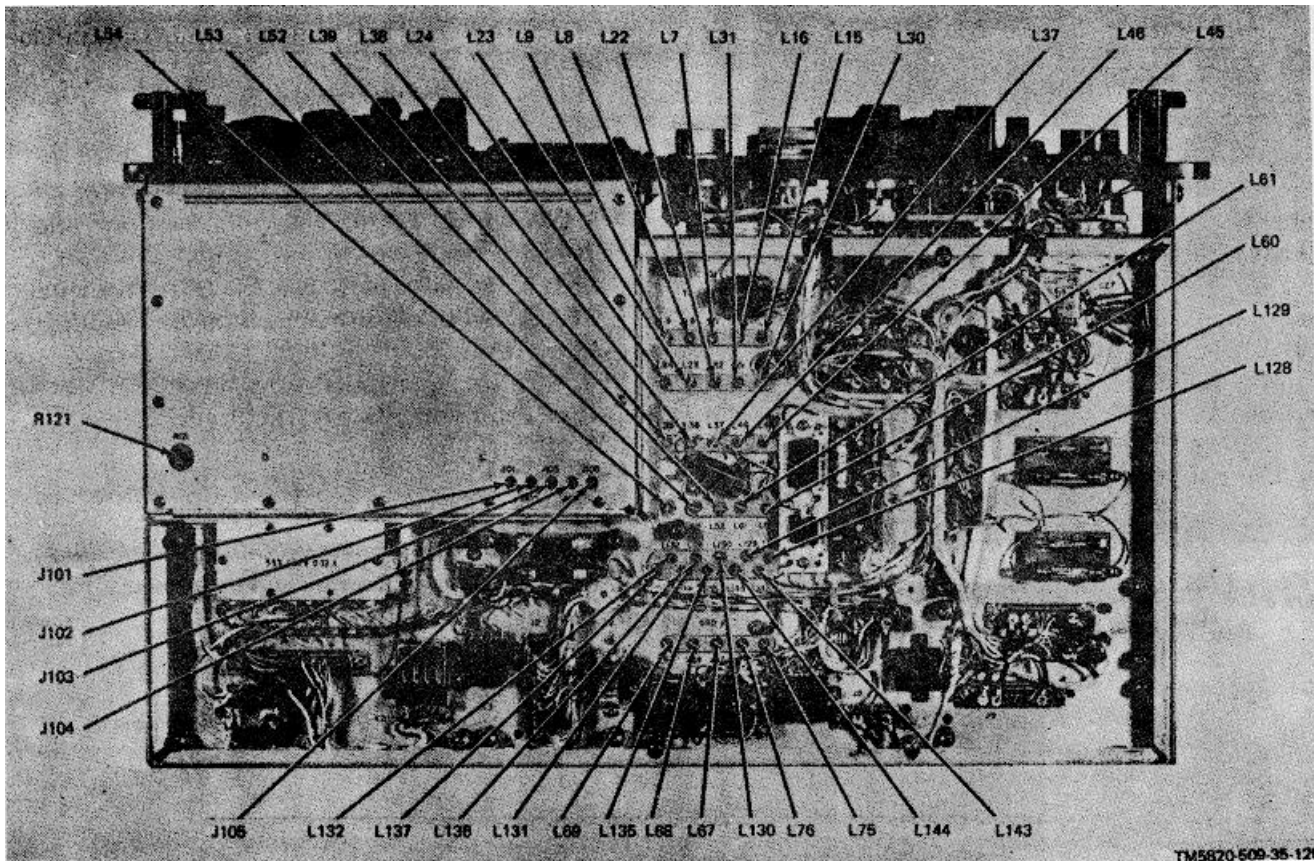

Figure 3-105. Radio Receiver-Transmitter RT-671/PRC-47 ((A8)), Bottom View, Location of Test Points and Adjustments.
(1) Connect the oscilloscope to chassis connector J2-22 (fig. 3-105) and adjust A1R27 (fig. 3-94) to obtain an oscilloscope amplitude of 3.5 volts peak-to-peak.
(2) Return the POWER-LIGHTS switch to POWER OFF and disconnect the test equipment.
(3) Return the RT-671 /PRC-47 to its case using the procedures of paragraph 3-11 if no further adjustments are required.